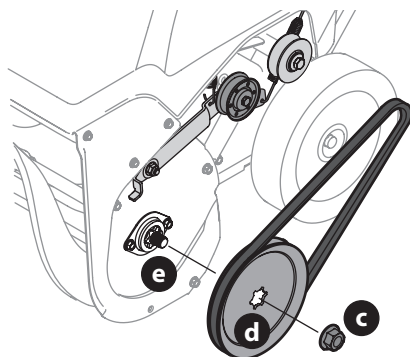

Figure 29
5. Remove the flange nut (c) that secures the auger pulley (d) to the auger shaft (e) (Figure 29).